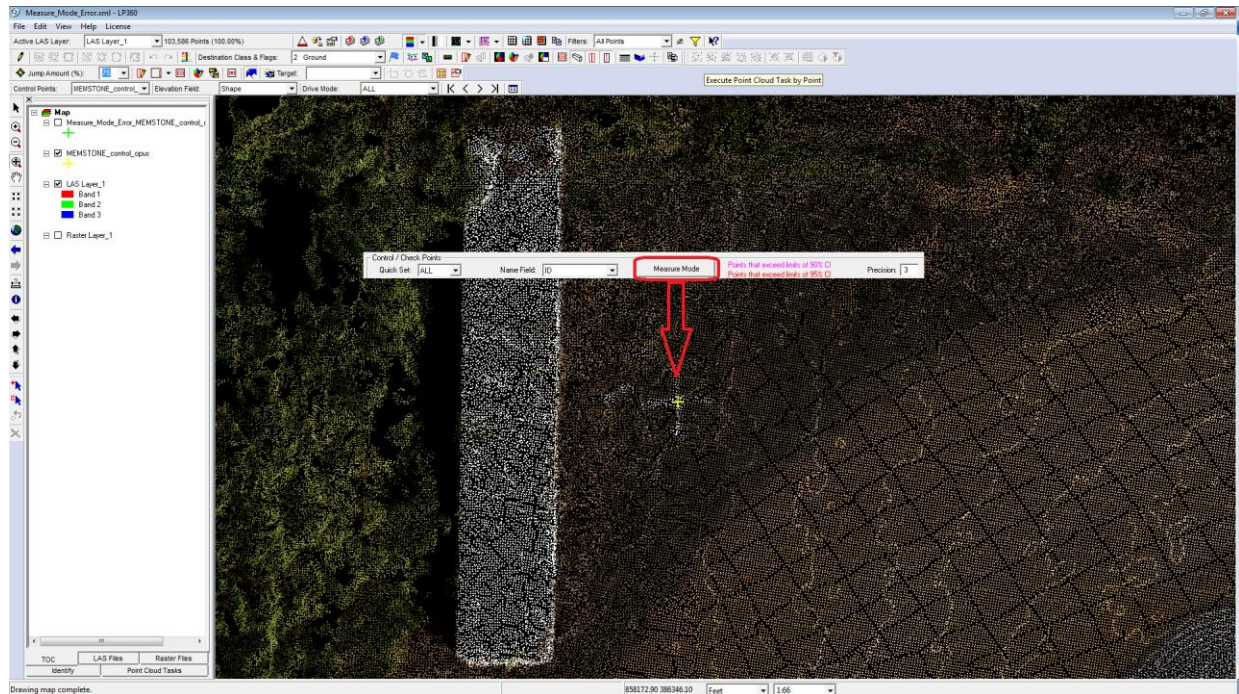

Figure 7 - Measure Mode Tool in LP360
3. Select Measure Mode to invoke the measurement mode, which involves a single left-click on the image or LIDAR data (Figure 7)